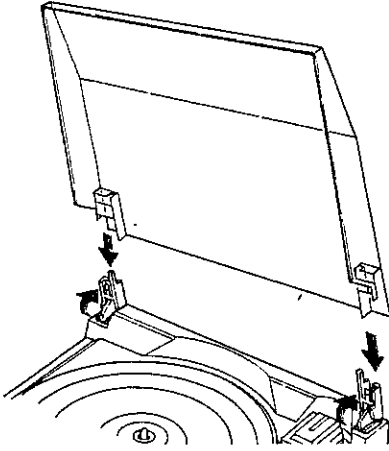

Fig. 1
3. Fit the dust cover to the unit with the hinges as shown in Fig. 1.